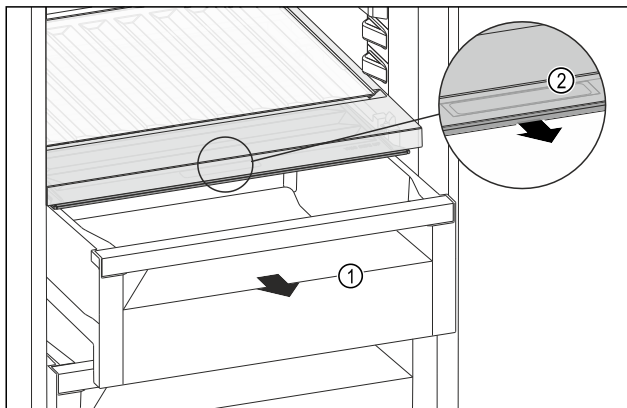

Fig. 109
- Pull out the drawer Fig. 109 (1).
- Grasp the recessed grip Fig. 109 (2) on the compartment lid and pull the compartment lid forwards at the same time.